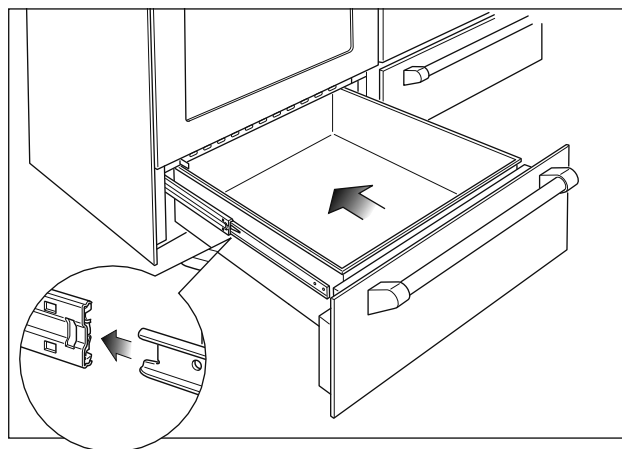

Fig.40b Replacing the drawers
- 1 Insert the drawer guides into the range guides (Fig. 40b).